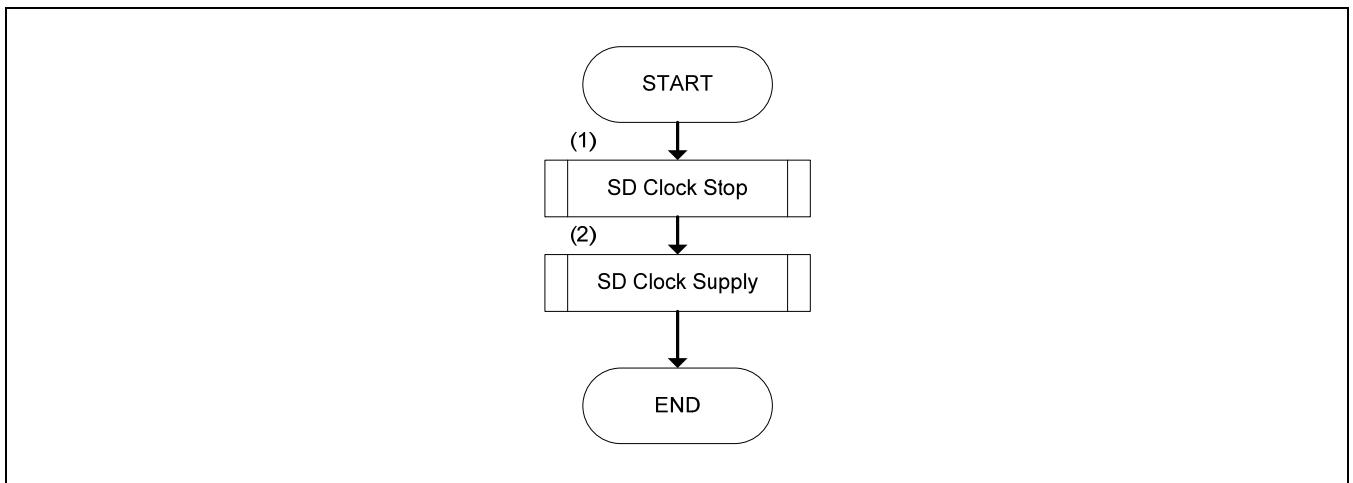

Figure 27-5. SD Clock Change Sequence
The sequence for changing SD Clock frequency is shown in Figure 27-5. When SD Clock is still off, step (1) is omitted.
- (1) Perform SD Clock Stop Sequence. Refer to 27.4.2
- (2) Perform SD Clock Supply Sequence. Refer to 27.4.3